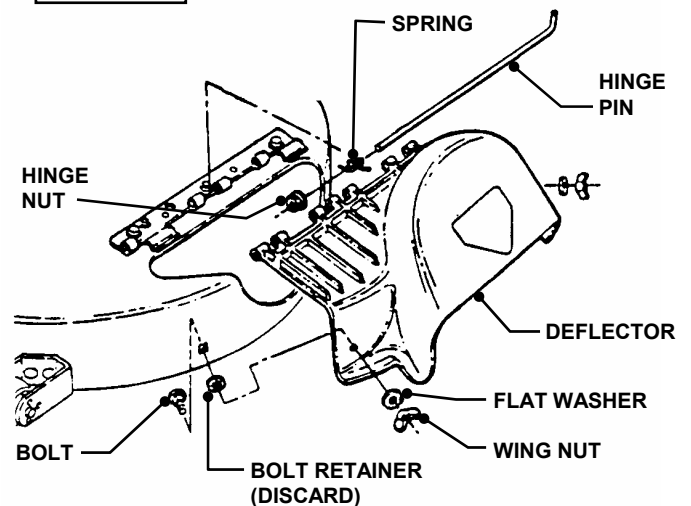

FIGURE 2A
A. Remove the hinge nut, spring and hinge pin from deflector. Remove deflector. Remove wing nut, flat washer, bolt retainer and bolt from deck. Save for future use when not bagging grass. See Figure 2A.